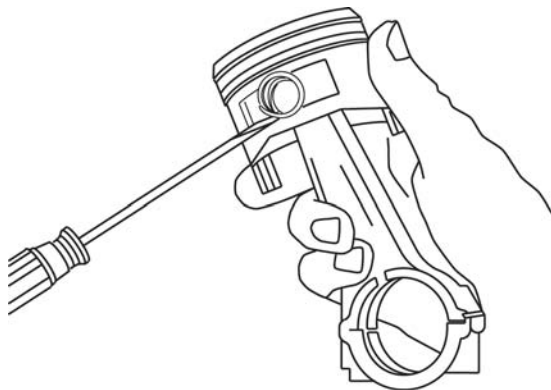

Fig. 74
2. Disassemble piston from connecting rod, Fig. 74.